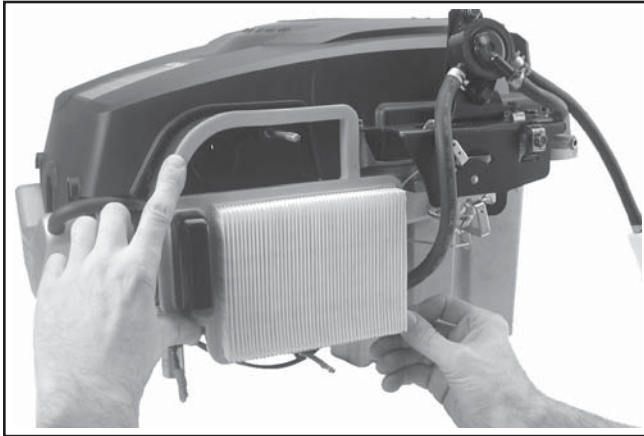

Figure 10-80. Installing Air Cleaner Element.
1. Install the air cleaner element with the pleated side “out.” Seat the rubber seal onto all the edges of the air cleaner base. See Figure 10-80.